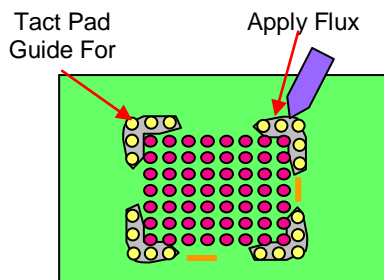

Figure 6
- By using the Flux injector, apply flux on the Tact Pad area as shown in Figure 6.